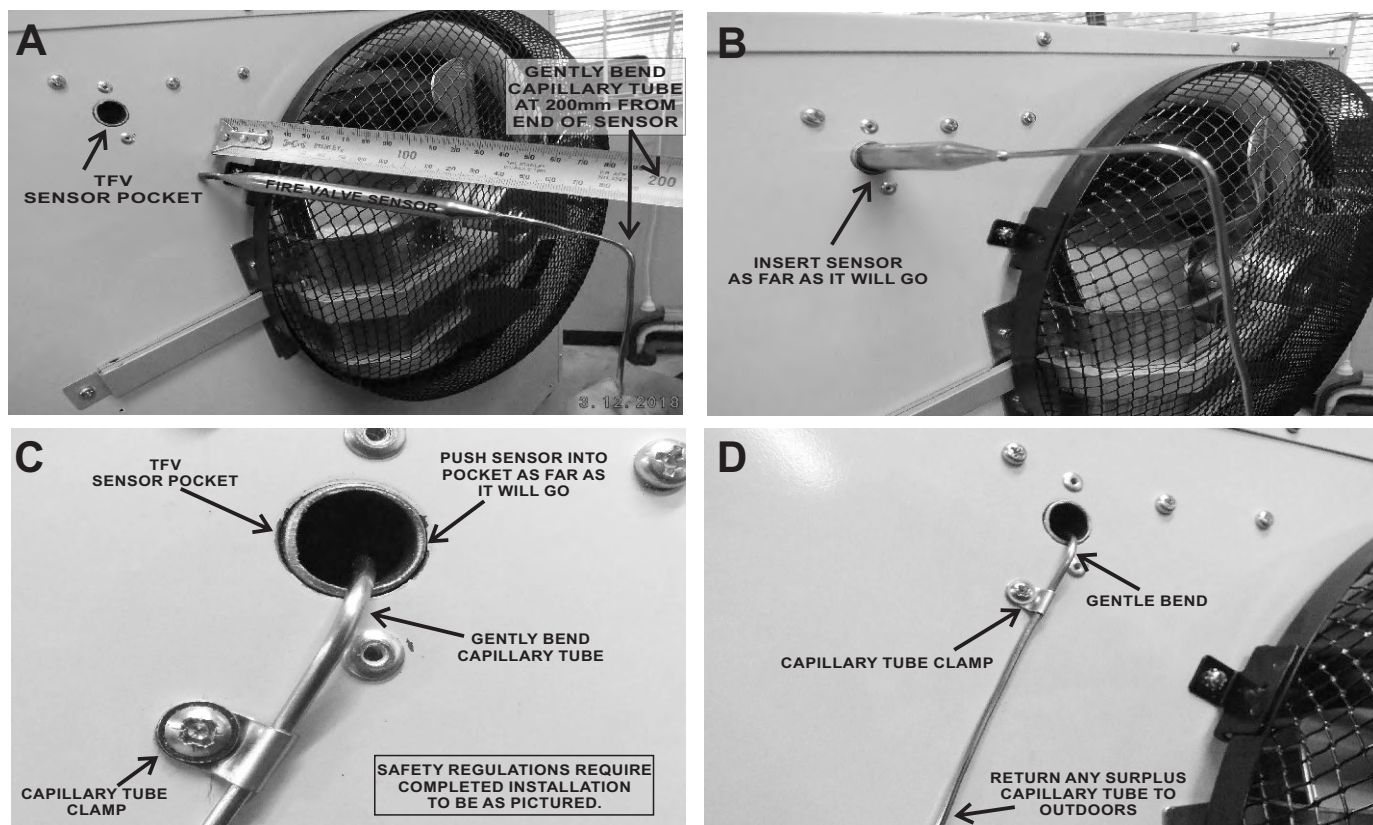

Fig. 3 - Installing Thermostatic Fire Valve Sensor
- 6) Hold the TFV a convenient distance from fuel pipe wall hole and push the Capillary Sensor with sufficient Capillary Tube through the fuel pipe hole so that when the FF-95 Heater is finally installed (indoors), there is **just sufficient** Capillary Tube to push the Sensor into the Heater Sensor Pocket and clamp to the back of the Heater as shown on Page 27 Fig 3. (Photos A-D). When the FF-95 is installed, carefully hand form the Capillary Tube as neatly as practical at the back of the Heater. Ensure that the Capillary Tube does not touch the Exhaust Pipe or Flue.